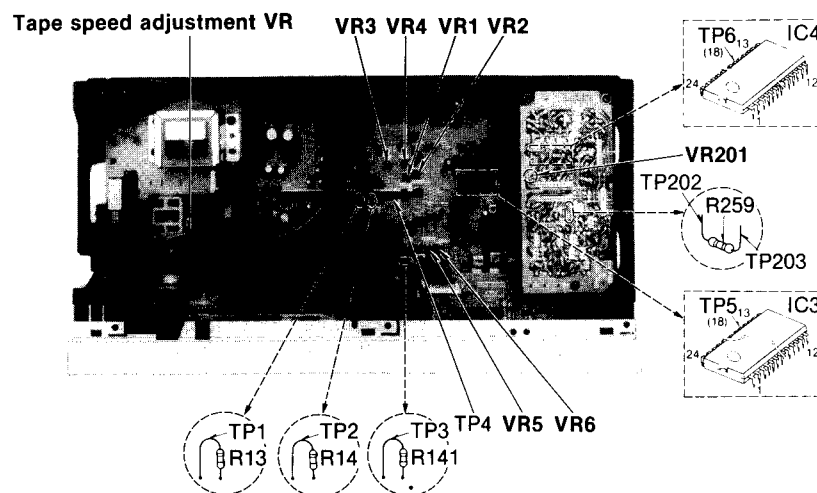

Fig. 1
- If measured value is not within the standard value, adjust it by using the tape speed adjustment VR shown in Fig. 1.
1. If the measured value is not within standard the adjust VR3 (L-CH) or VR4 (R-CH) (See fig. 1).